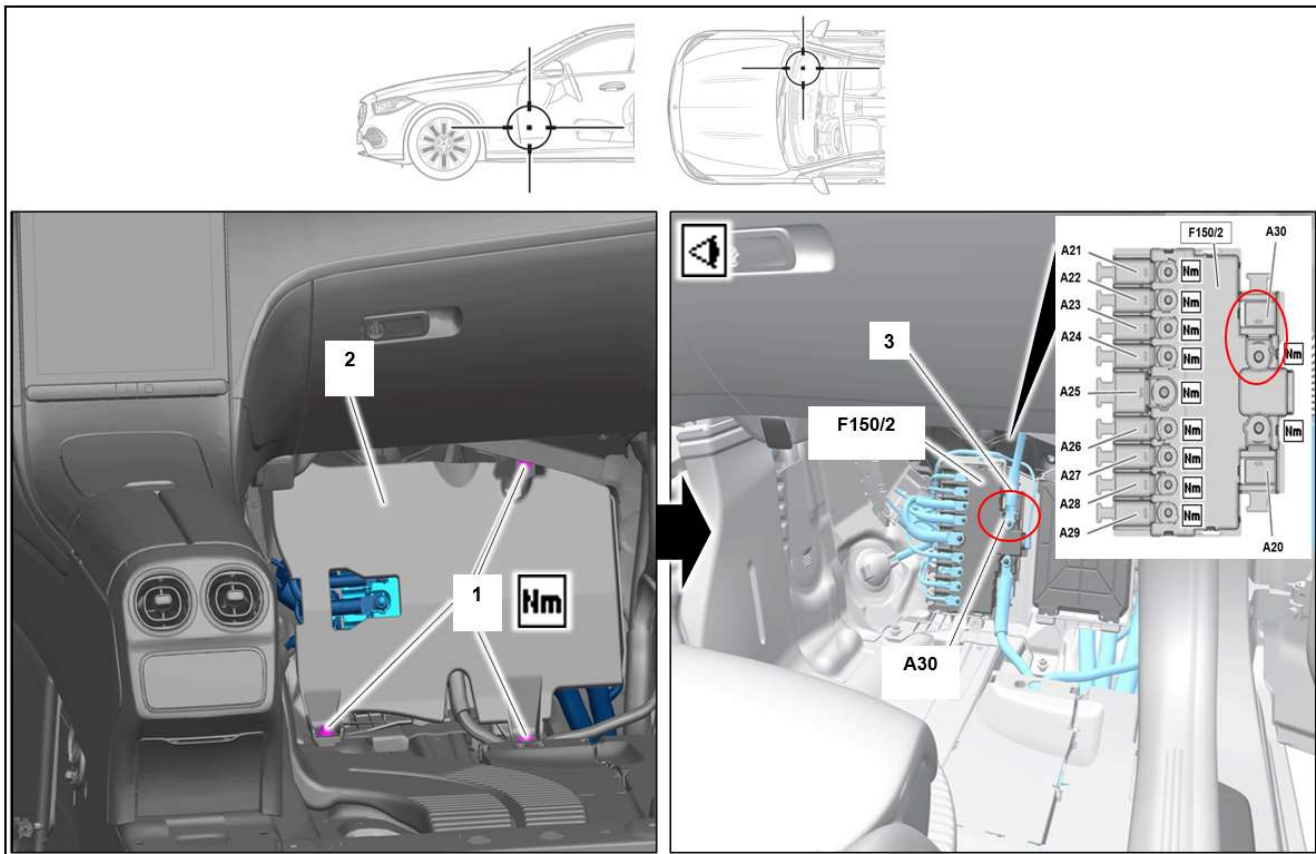

Figure 1
3. Remove passenger side footwell support (**Figure 1, 2**).
i For this purpose, remove nuts (**Figure 1, 1**).
i **Installation:** Tighten nuts (**Figure 1, 1**) with the specified tightening torque of **6 Nm**.